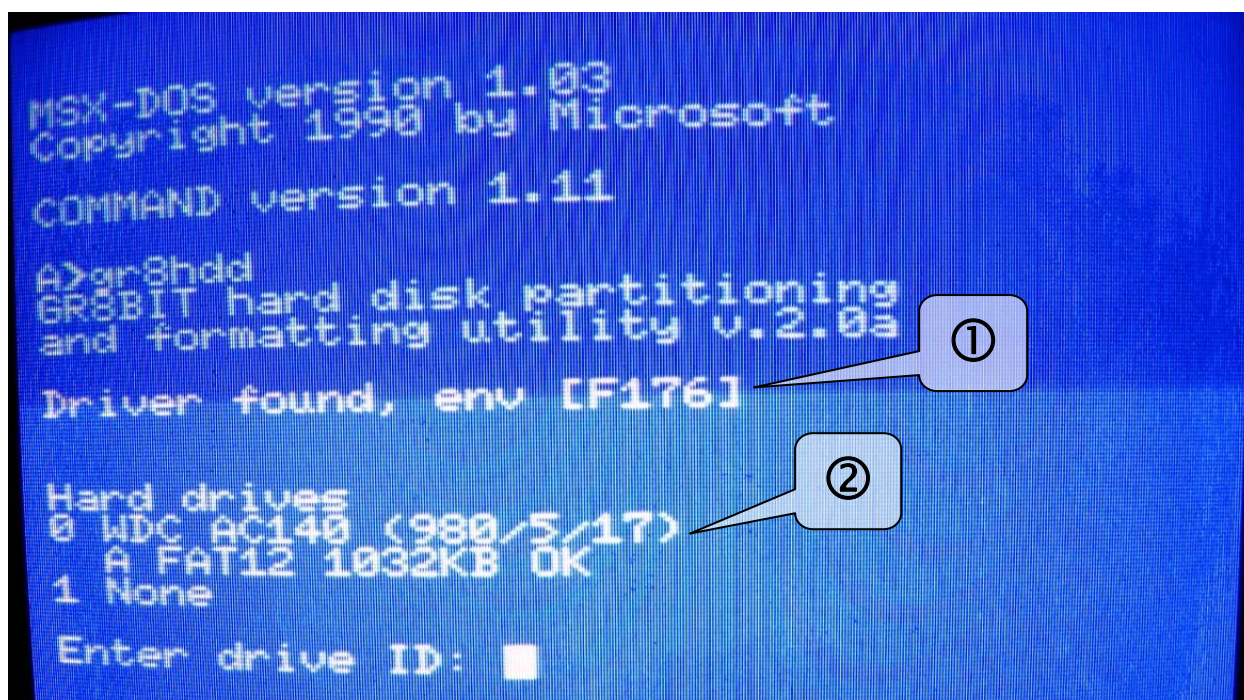
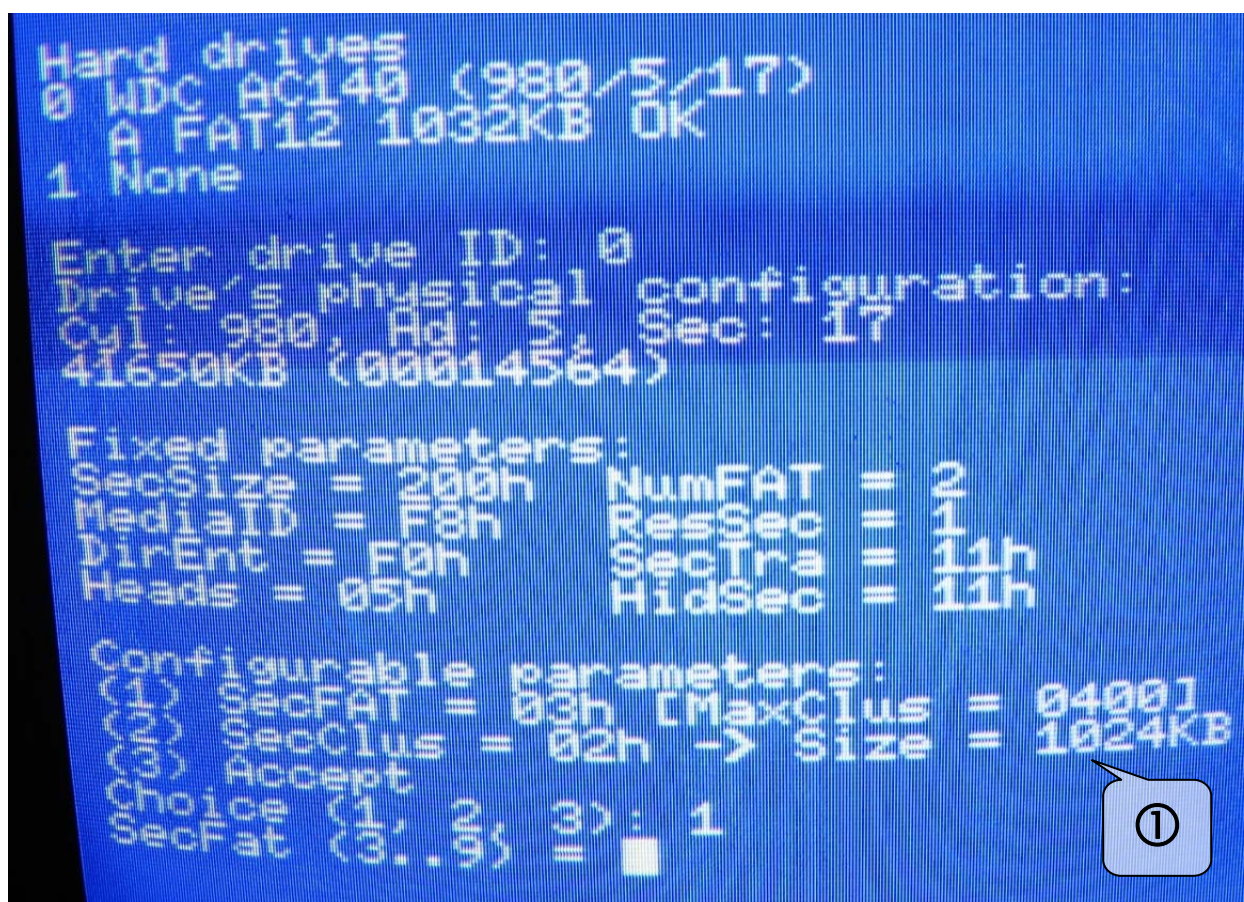
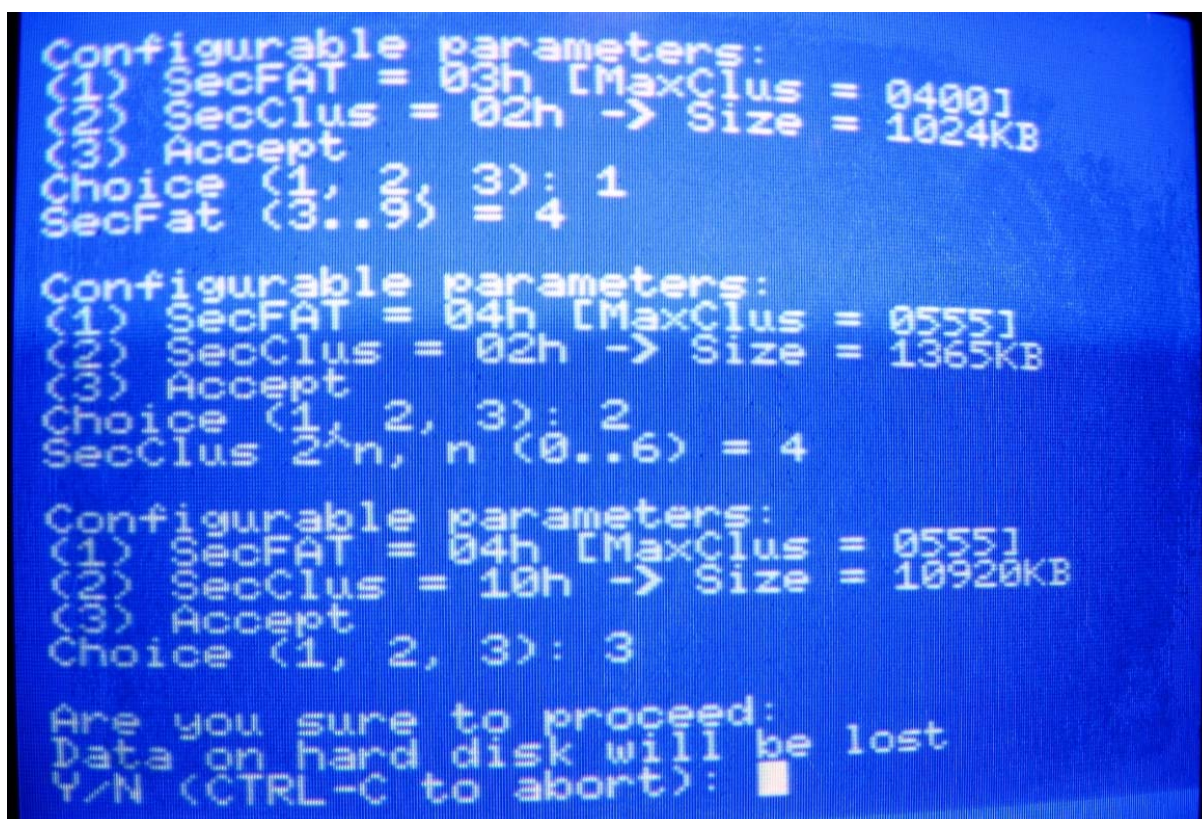

Figure 2.3. Start of GR8HDD application
Figure 2.4. Further option selection dialogue of the GR8HDD
Figure 2.5. Selecting option 3
GR8HDD uses system calls provided by the GR8BIT storage subsystem ROM, and first it looks for this code, identifying the driver work area where all the definitions are stored (fig. 2.3, (1)). Then it uses hard disk enumeration call from the disk ROM and lists available hard disk drives.
At this stage you will select hard disk unit (only 0 is available choice in example on fig. 2.3), or press CTRL-C or CTRL-STOP to abort. Then you will see the list of fixed parameters, and list of changeable parameters (fig. 2.4). As you change these parameters, approximate LVOL size will be displayed at position (1). When you are satisfied with the volume size, select option 3 and confirm it by typing "Y" key (fig. 2.5). GR8HDD initializes MBR, writes control structures (including bootable boot sector), and requests you to reboot the system as LVOL parameters most probably change. Please do not select LVOL size larger than hard disk size – it may lock up HDD at the enumeration stage.